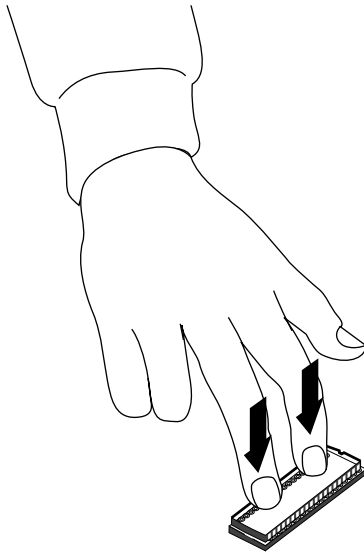

Figure 15 Pressing the PROM chip into the socket
4. Once the pins are lined up, press down firmly on the top of the PROM chip until it is seated in the socket, as shown in Figure 15.